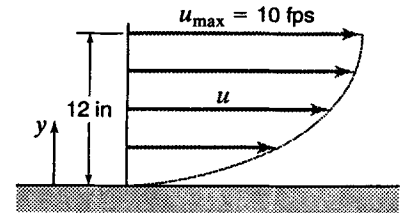

Figure X2.11.11
2.11.11 Assuming a velocity distribution as shown in Fig. X2.11.11, which is a parabola having its vertex 12 in from the boundary, calculate the velocity gradients for $y = 0, 3, 6, 9,$ and 12 in. Also calculate the shear stresses in lb/ft^2 at these points if the fluid's absolute viscosity is 600 cP .